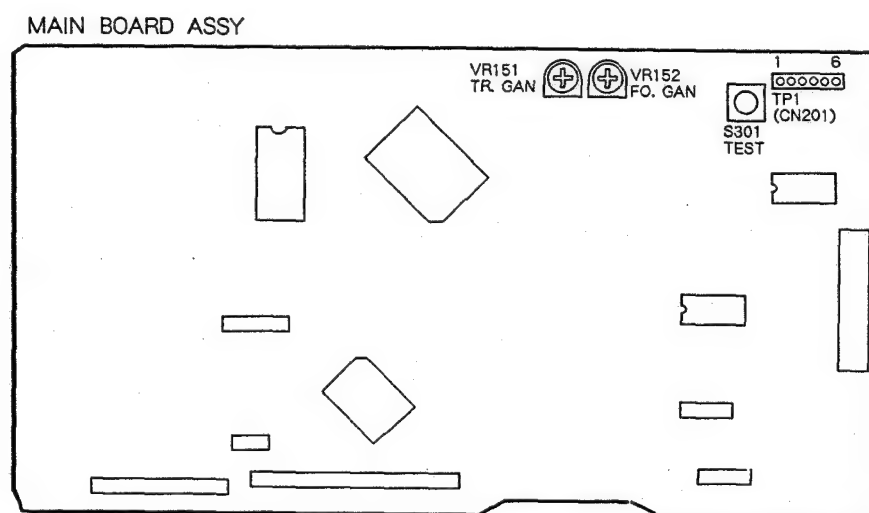

Figure 1. Adjustment Locations
2. Press the TEST mode switch (S301). (See Figure 1.)